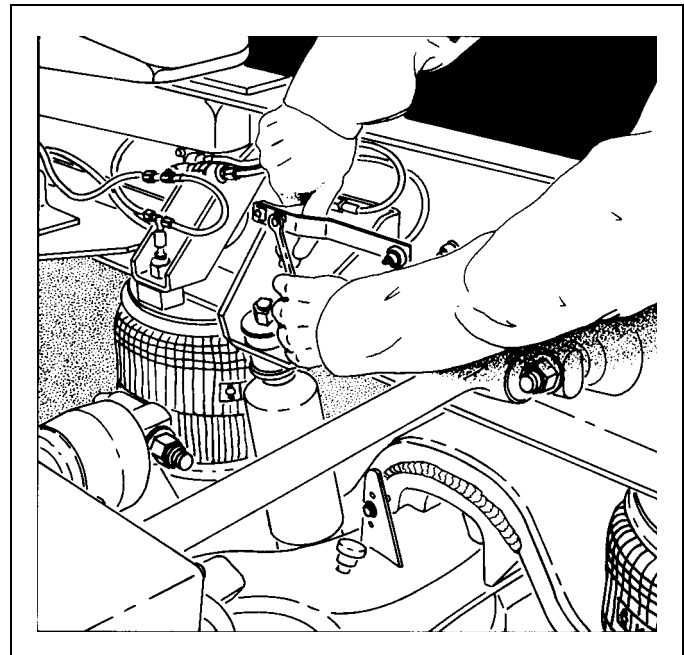

Figure 17-6
5. Loosen the nut of the leveling valve, see Figure 17-6.